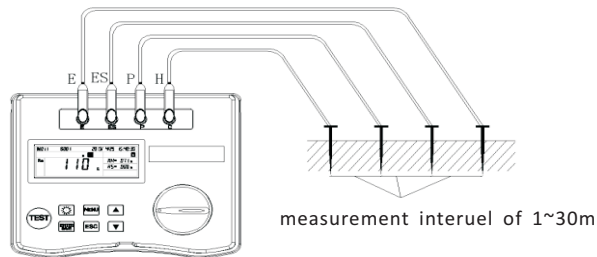

Fig.25
(2) Connection of Auxiliary Earth Spikes and Test Leads (Reference To Fig. 25)